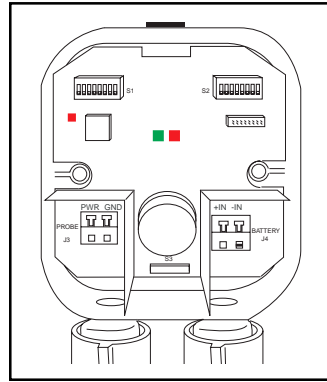

Fig. 12
2. Verify that green LED (Fig.12) flashes every 6 seconds followed by the adjacent red LED.